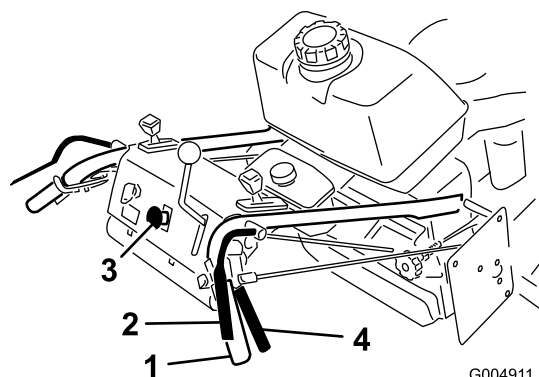

Figure 9
1. To engage blades, squeeze the Operator Presence Control (OPC) levers against handle grips (Figure 9).
Release the Operator Presence Control (OPC) levers to stop the blades (Figure 9).